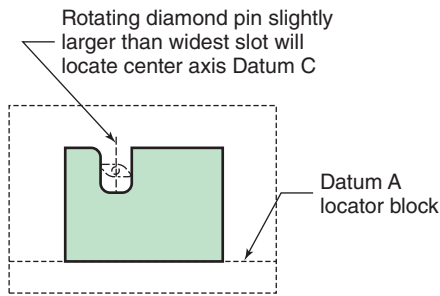

Figure 20-45 One possible solution—but the best would have been a better job plan sequence!
4. The real problem is this was poorly planned! It should have been sequenced by holding the blank, then cutting the Datum C slot along with the details referenced to it, *at the same time*. However, to locate the center of the Datum C slot, on these parts, I put in a Datum C rotating diamond pin (see Fig. 20-45). When it's turned, it centers the slot over the pin's center. I then clamped the work to the Datum A locator block to do the machining.